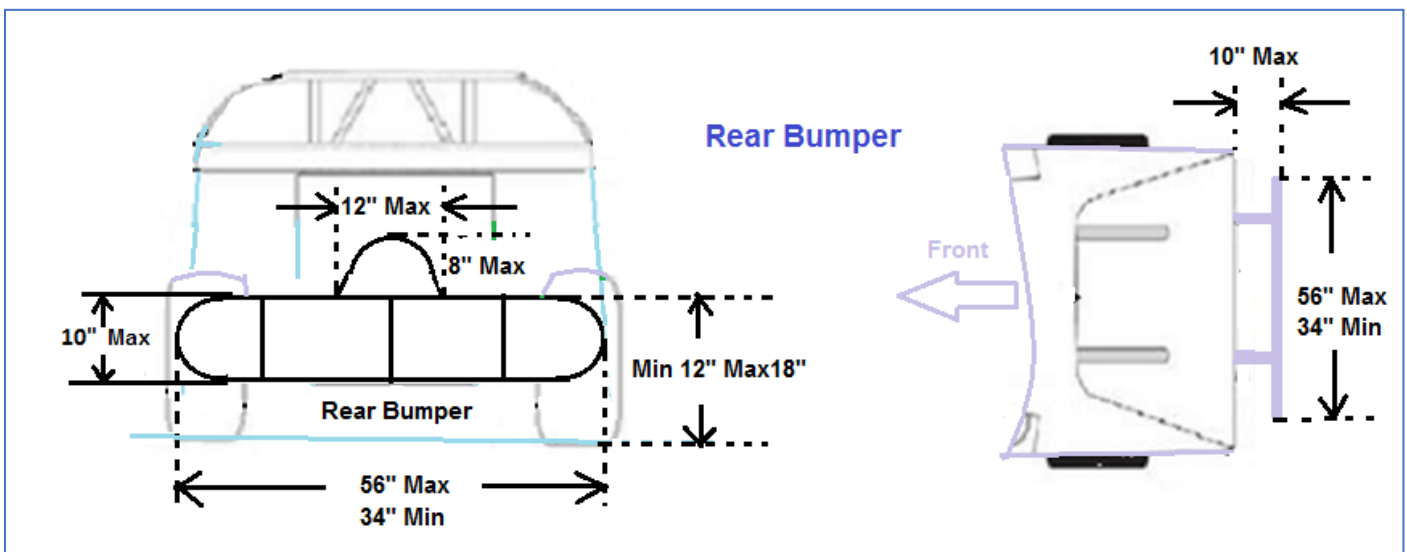

Figure 12
16.2 Rear bumper maximum width 56 inches or minimum width 34 inches. Rear bumper must have two horizontal bars combined with a minimum of three vertical sections that form a continuous hoop (no protrusions outside of this hoop). Rear bumper max height between outermost edges of horizontal bars is 10 inches. The distance from the ground to the top of the rear bumper must be 12 inches minimum or 18 inches maximum. Rear bumper must not extend more than 10 inches behind rear-most point of the body panels (*Figure 12*).
16.3 A hoop is allowed on the top side of the rear bumper bar no wider than 12 inches and a maximum of 8 inches high. Must be manufactured from the same material as the rear bar and welded in place. This is an option for push car protection only (*Figure 12*).